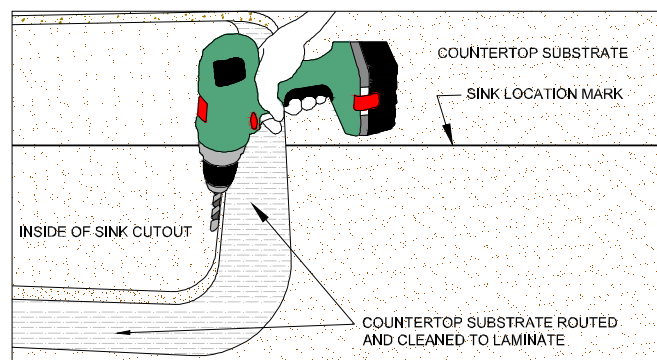

Figure 6C
- Drill a  $\frac{1}{2}$ " or larger pilot hole through the substrate at the inside of the sink cutout to insert a laminate trim bit to cutout center piece. (FIG. 6C)